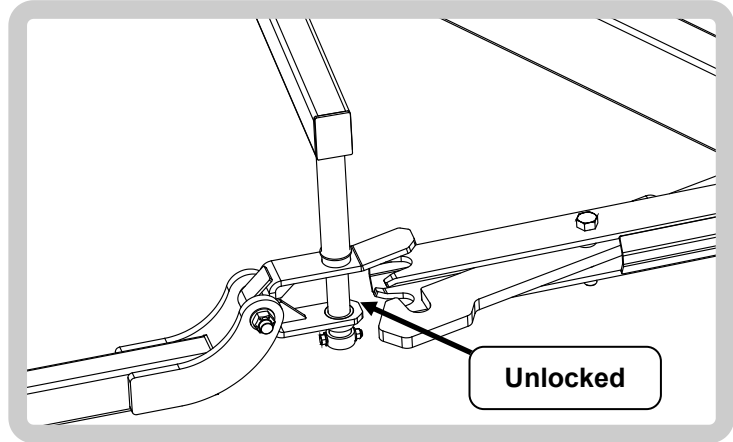

FIGURE 8
2. Lift up the wings by activating the **YELLOW** hydraulic remote. Ensure the auto fold lock opens as the harrows are lifted to the raised position (fig. 8).